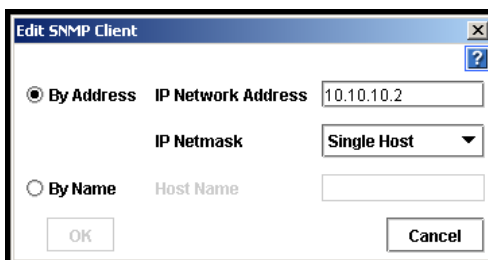

Figure 95. Editing SNMP Client from the Access Control List
2. Click Edit. The Edit SNMP Client window opens, shown in Figure 95.